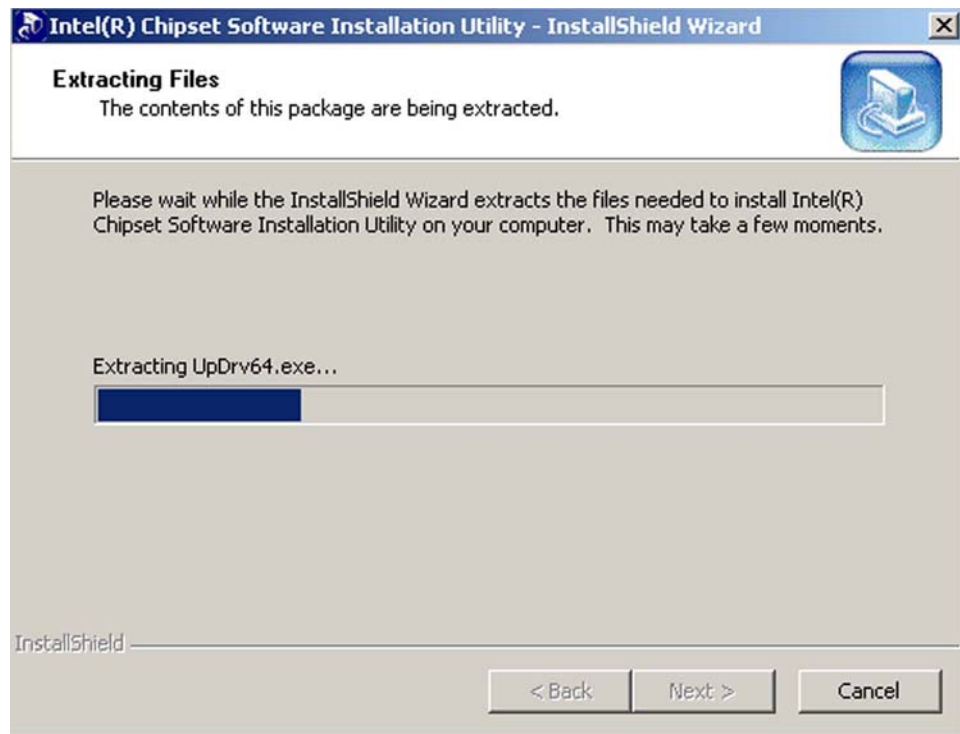

Figure 6-1: Extracting Driver Installation Files
Step 2: Once you double click the **infinst_autol.exe** icon, the screen shown in **Figure 6-1** should appear.